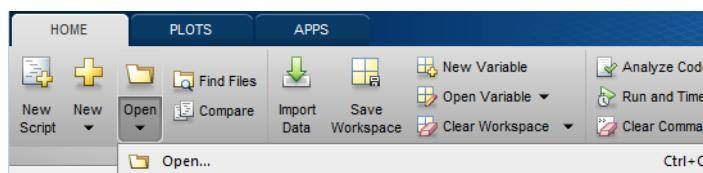

Figure 11-4: Open the System Generator Design
2. When Matlab invokes, click the **Open** toolbar button. As shown in Figure 11-4.